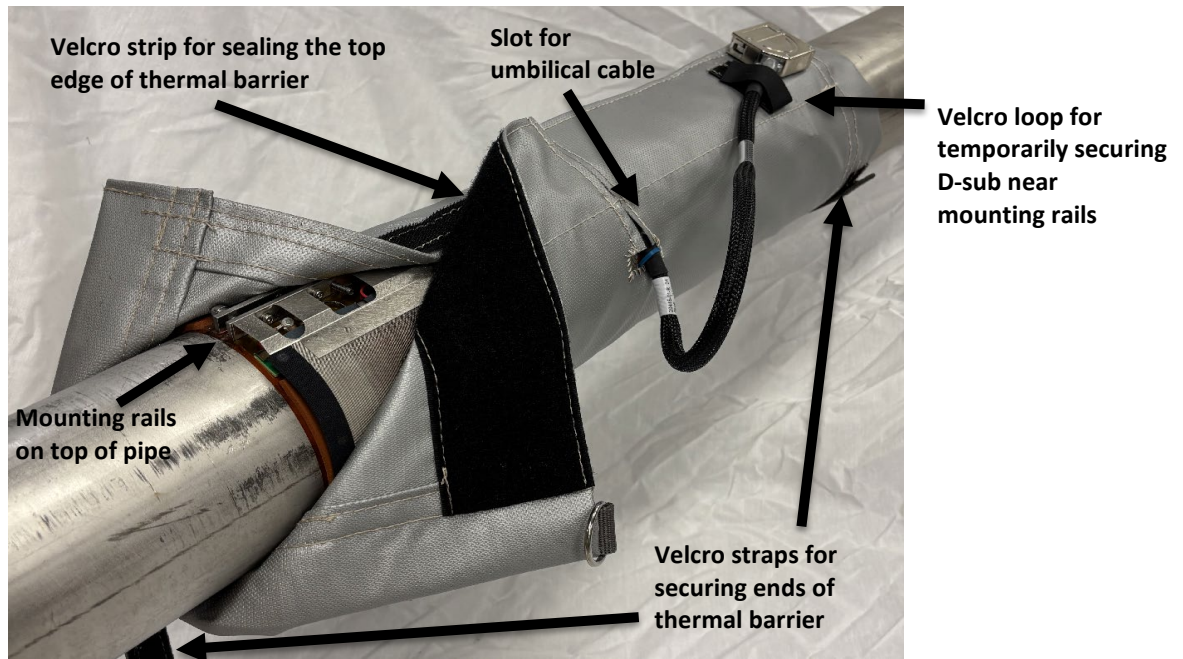

Figure 2-12: Thermal Barrier Installation over BAND - <6" and Dual-BANDs
1. Align the slot(s) on the thermal barrier with the BAND umbilical cable(s) per *Figure 2-12* or *Figure 2-13*, below, according to the pipe size.